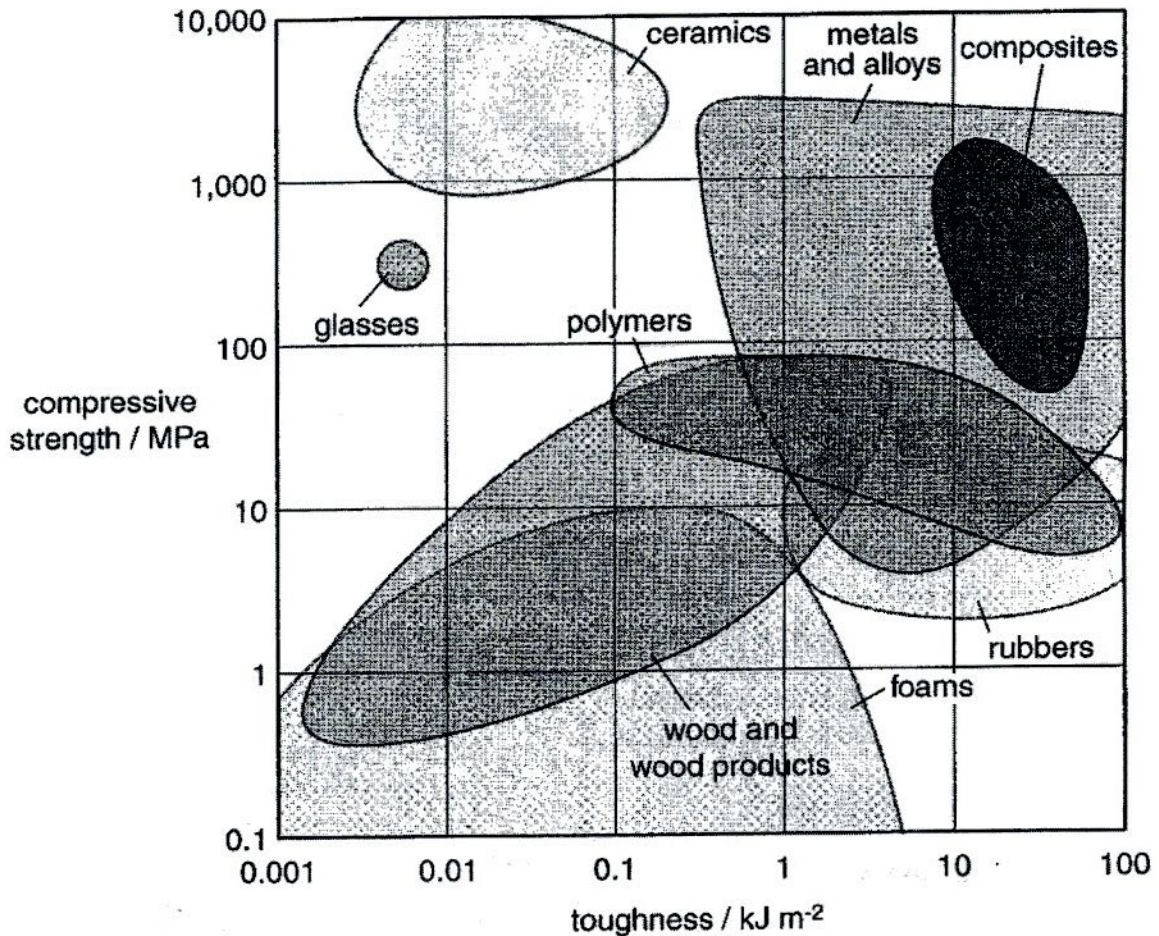

Fig. 4.1
Fig. 4.1 shows, on a plot of the compressive strength against toughness, ranges of values for different classes of material.
- (a) State the class of materials shown in Fig. 4.1 that has the greatest average strength in compression.